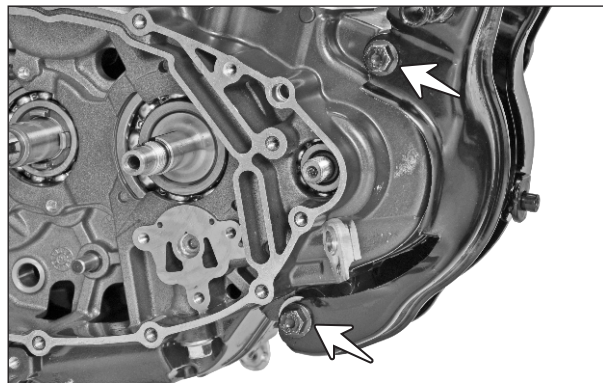

Fig. 3.136
- Remove the hexagonal flange bolt (M8x100 - 1 no.) and (M8x120 - 1 no.) from the mounting of bracket engine mounting RH and take out the bracket. (Fig. 3.136)